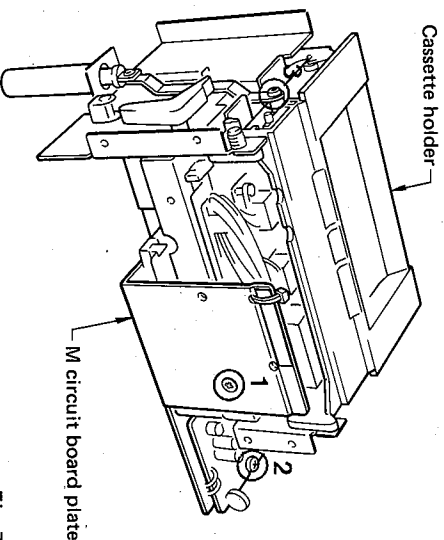

Fig. 7
- a. Remove screw ① in fig. 7 and loosen screw ② in fig. 7, and then remove the M circuit board plate.
- b. Remove screw ③ in fig. 7 and open the cassette holder.